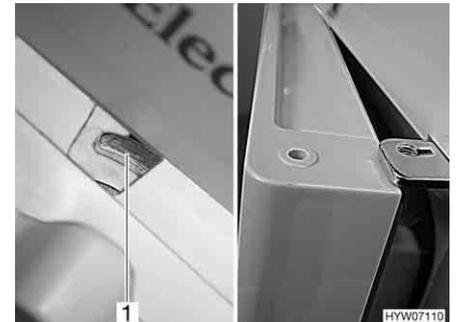

Fig. 212 Refrigerator door in ventilation position (Dometic 7 series)
- Push the lock completely to the right. The door latch (Fig. 212,1) keeps the refrigerator door in a fixed position. The refrigerator door will then stay slightly open (Fig. 212).